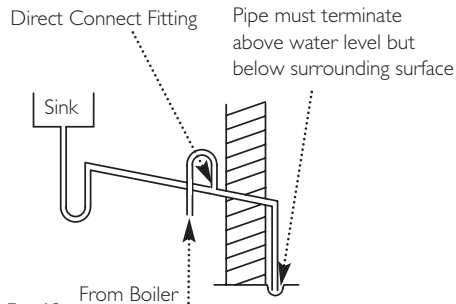

Fig. 13
- i) via an internal discharge branch (e.g. sink waste) - Fig. 13.